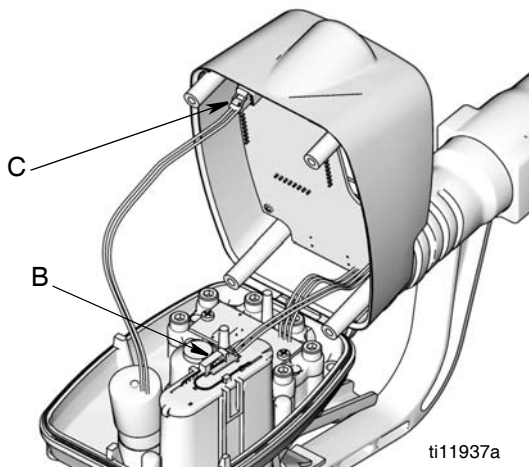

FIG. 31
3. Turn meter over and tilt cover back (FIG. 31).